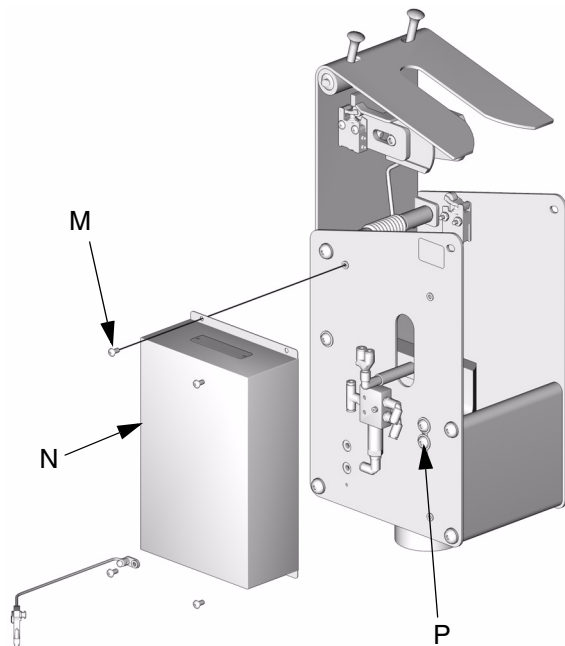
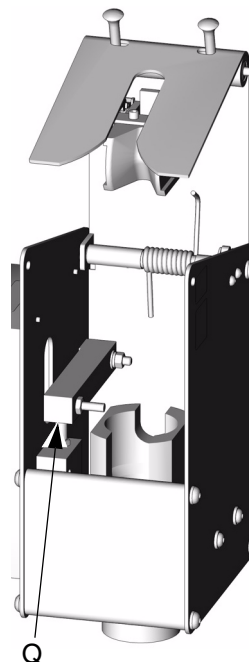

FIG. 9
FIG. 10
2. Remove the four screws (M) holding the cover (N) to the gun flush box. FIG. 9.
4. Loosen both screws (P) holding the cylinder block (Q). FIG. 9 and FIG. 10.
5. Position the cylinder block (Q) as needed to trigger the gun, then tighten the screws (P).